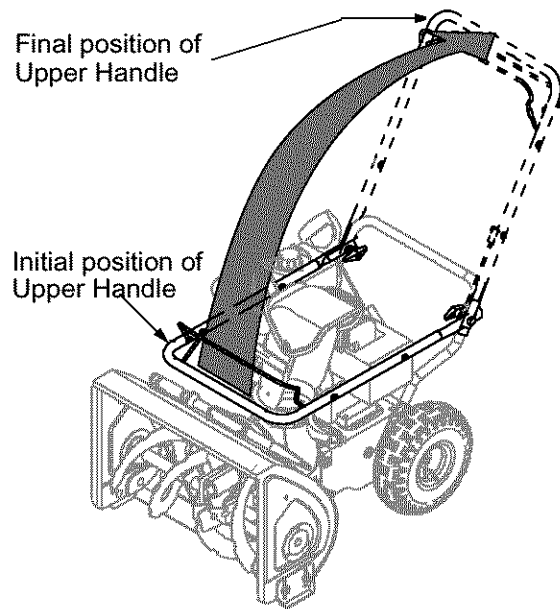

Figure 3
3. Hold both control bails against the upper handle and pull up as shown in Figure 3. Make sure that the upper handle locks over the lower handle and the saddle brackets align with the handle. You may have to carefully maneuver the upper handle to clear the discharge chute.